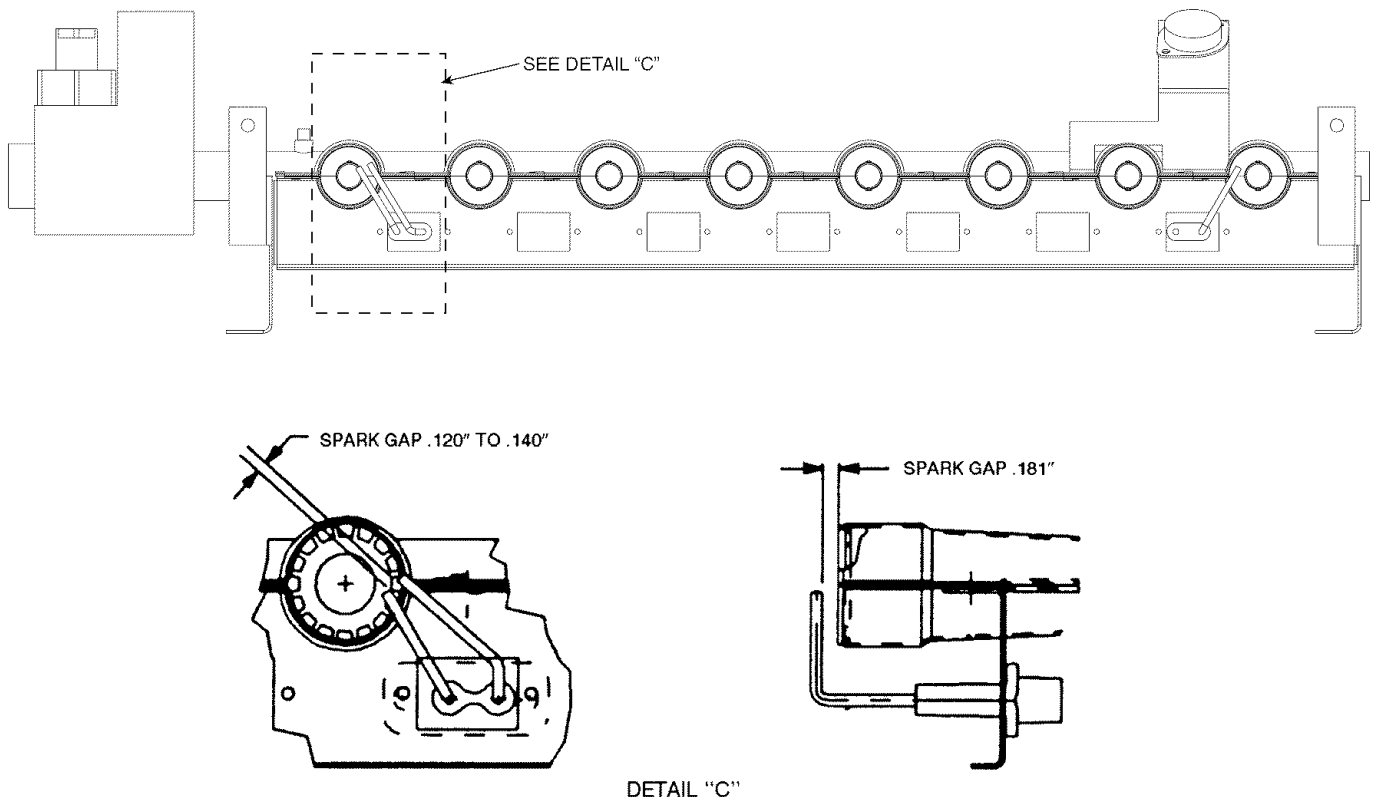

Fig. 41 — Spark Gap Adjustment
4. Adjust spark gap. See Fig. 41.